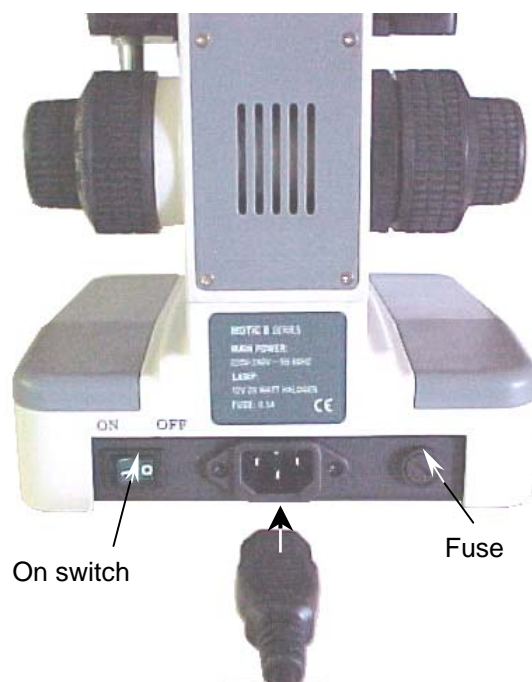

Fig. 2
1. Before using the microscope, adjust the light intensity control (23) to minimum position. This should be repeated every time the microscope is switched on or off to prolong the use of the bulb.
2. Press switch to ON position. (Fig. 2)